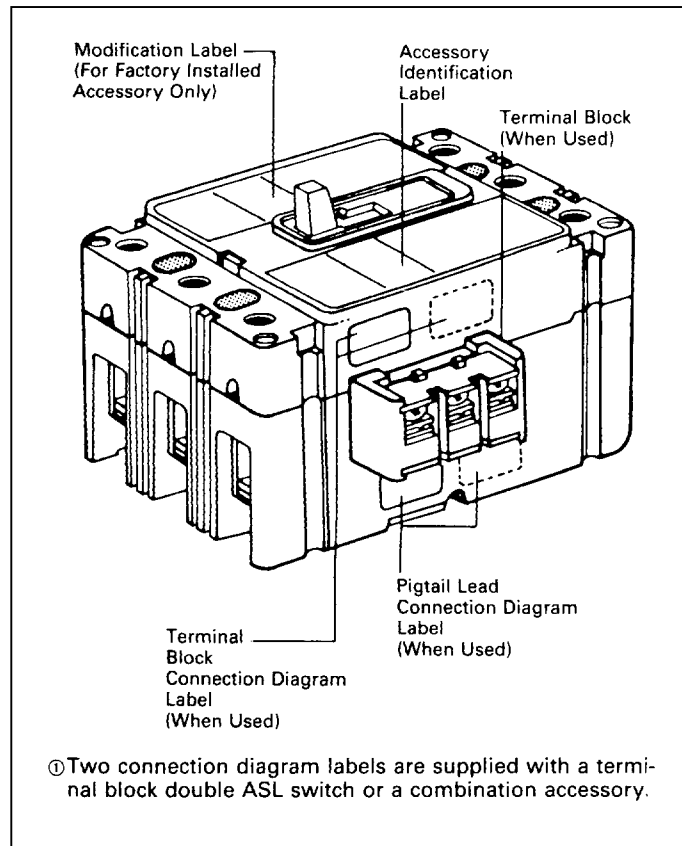

Fig. 2-10. Preferred Mounting Locations for Accessory Labels
- 2-12. Place labels supplied with kit on HMCP. (See Fig. 2-10.)